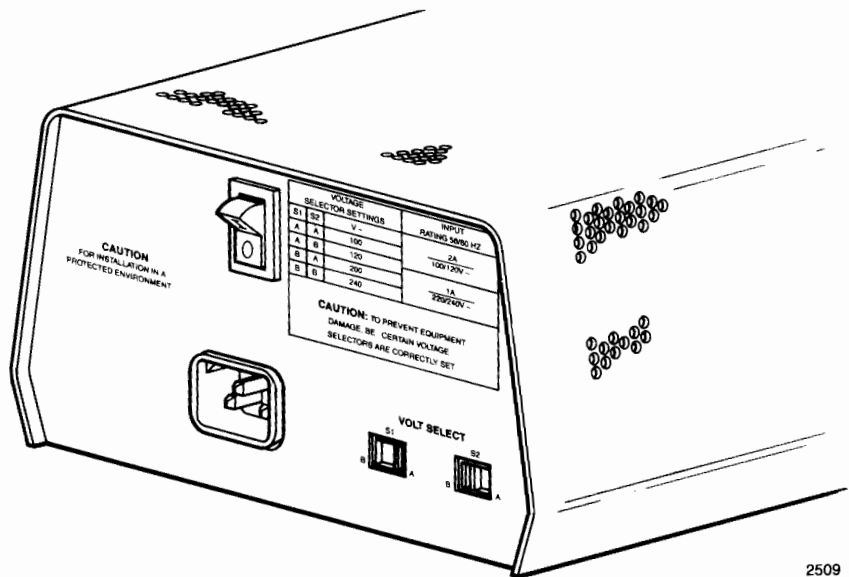

Figure 1-2 The ICE™-5100 Emulator's Power Supply Back Panel
1. Verify that the emulator's power supply switch is in the OFF position and that the voltage selector switches on the back of the power supply are properly configured for your area (refer to Figure 1-2).